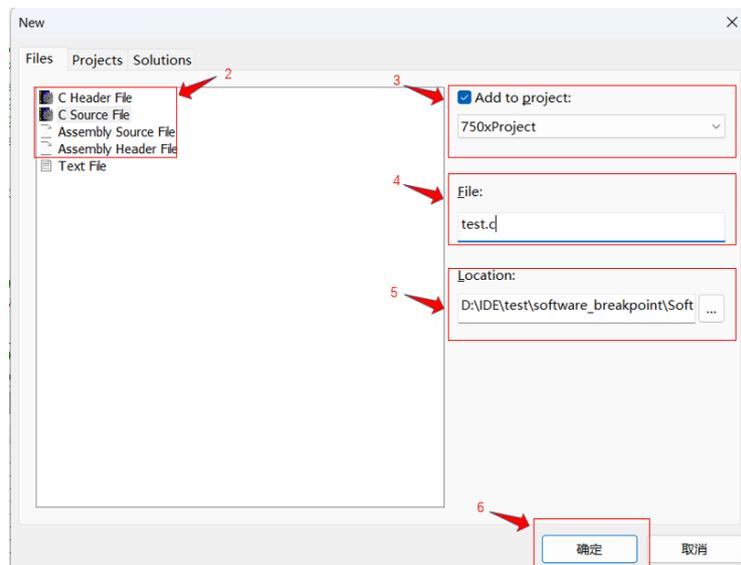

Figure 2-10
Step 2: Select the file type, including "C Header File", "C Source File", "Assembly Header File", "Assembly Source File" and "Text File", as shown in Figure 2-10.
Step 4: Enter the file name, as shown in Figure 2-10. When "C Source File" is selected, you can enter